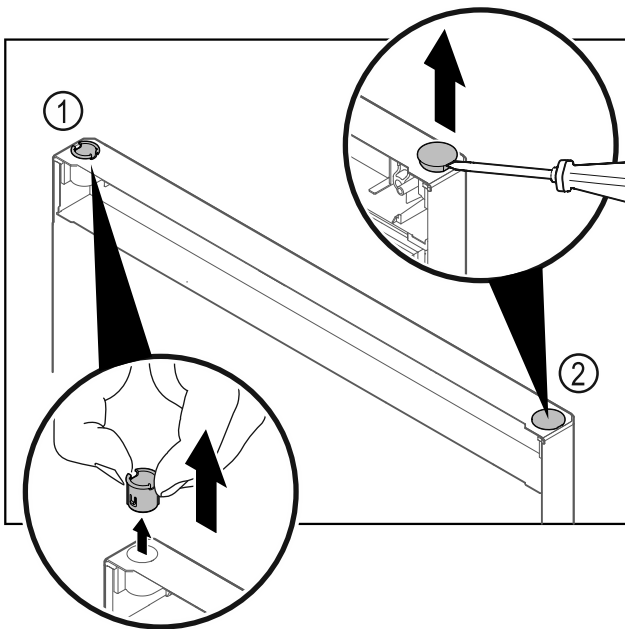

Fig. 29 Freezer compartment door
- ▶ Pull out the hinge bushing Fig. 29 (1) with your fingers.
- ▶ Carefully lift the cover plug Fig. 29 (2) with a slotted screwdriver and pull it out.